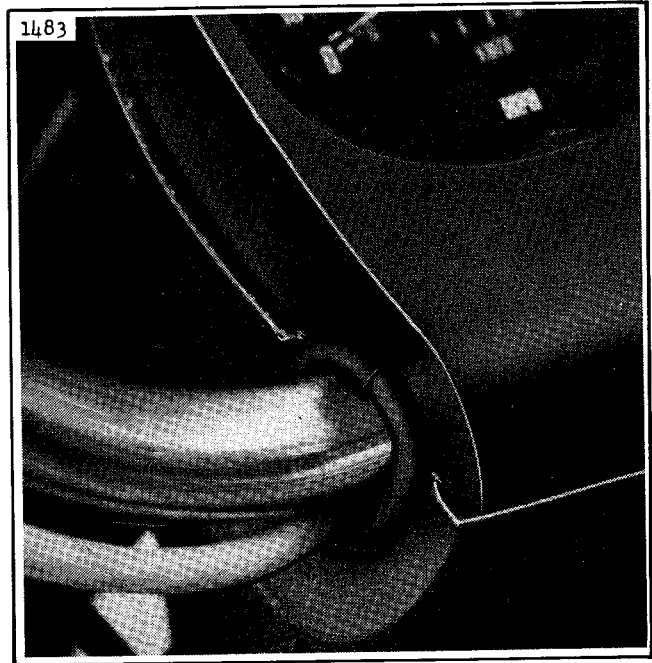

Figure 6. Handlebar Grommet
14. Reinstall instrument panel head case. Be careful to fit between lips of grommet. (See Figure 6.) Be careful not to scratch paint on housing during installation.